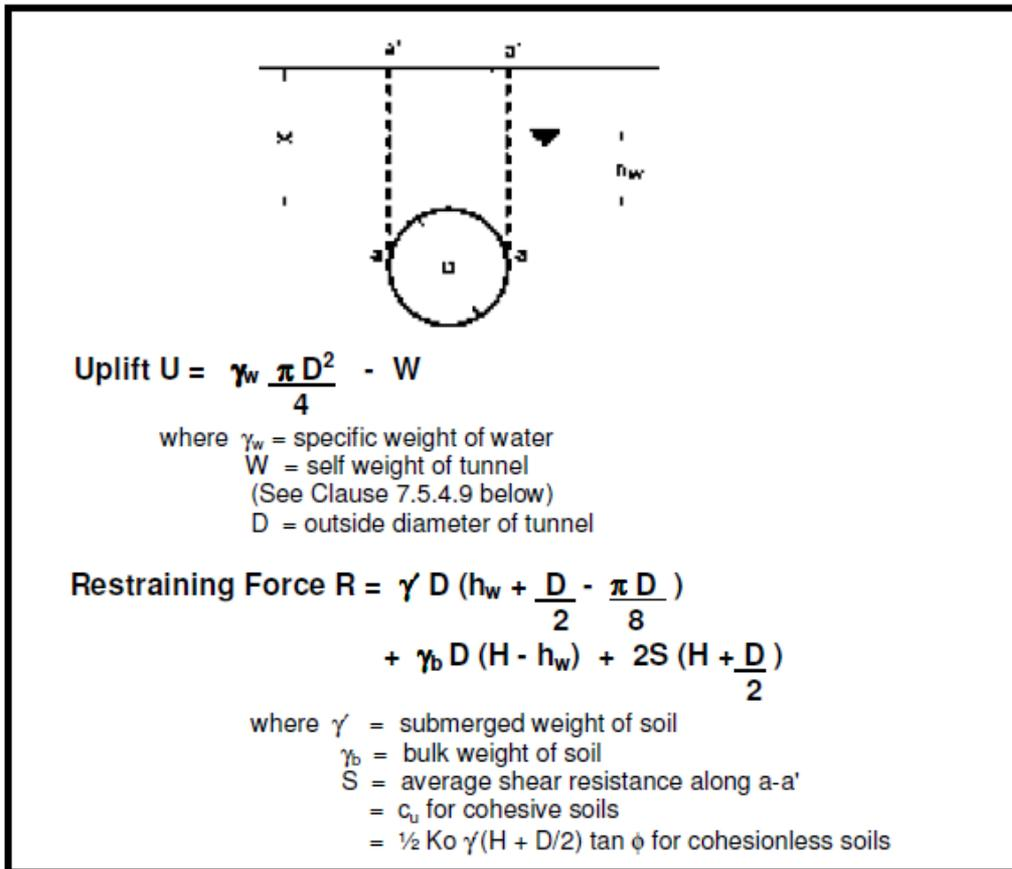

Figure 7.1 Method for checking flotation due to differential water pressure
7.5.4.1 Where tunnels are relatively shallow, they shall be checked for the possibility of flotation due to differential water pressure by the following method (Figure 7.1):